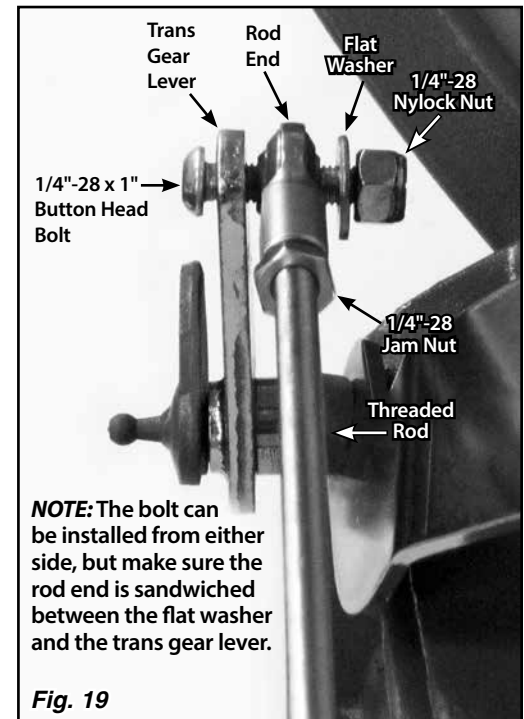

Fig. 19
Step 23: Verify both 1/4"-28 jam nuts are on the threaded rod, and install a rod end onto each end of the threaded rod. Attach the threaded rod assembly to the *inside* of the trans gear lever and to the *outside* of the quad shift lever using the 1/4"-28 x 1" button head bolts, flat washers, and nylock nuts as shown in Fig. 18 and Fig. 19. The button head bolts can be installed from either direction, but make sure each rod end is sandwiched between the flat washer and the trans gear lever or quad shift lever.